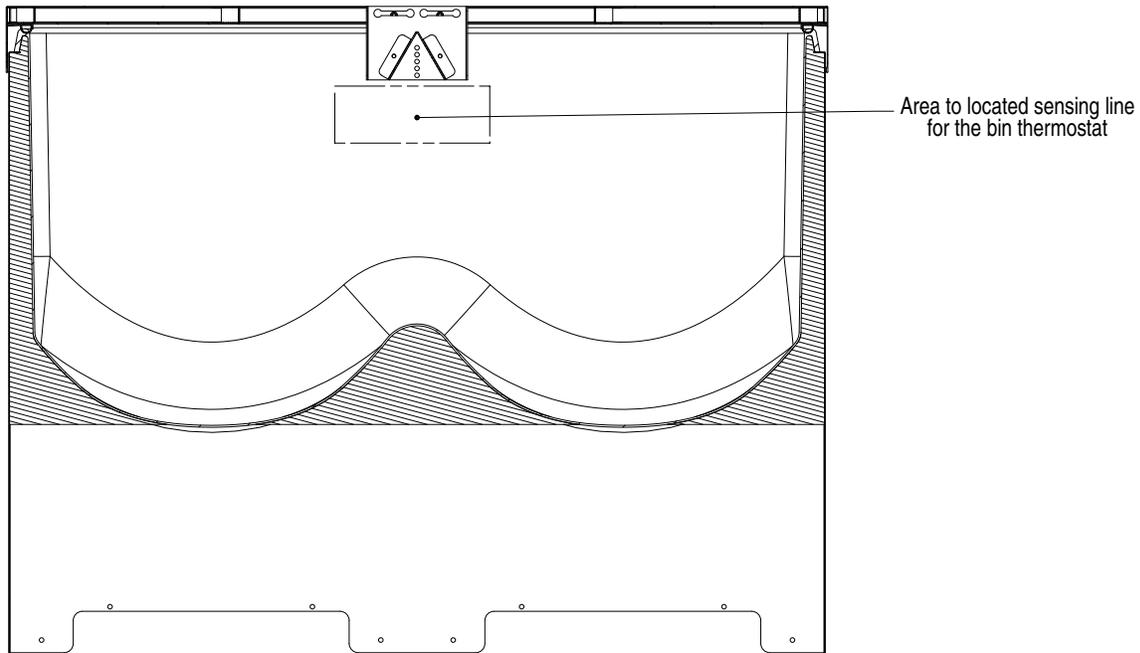

FIGURE 4.
8. Install ice deflector in adapter opening using four #8-32 screws, see Figure 4. Do not completely tighten screws at this time.
12. Install icemaker bin thermostat just underneath ice deflector. See Figure 4 for location area.